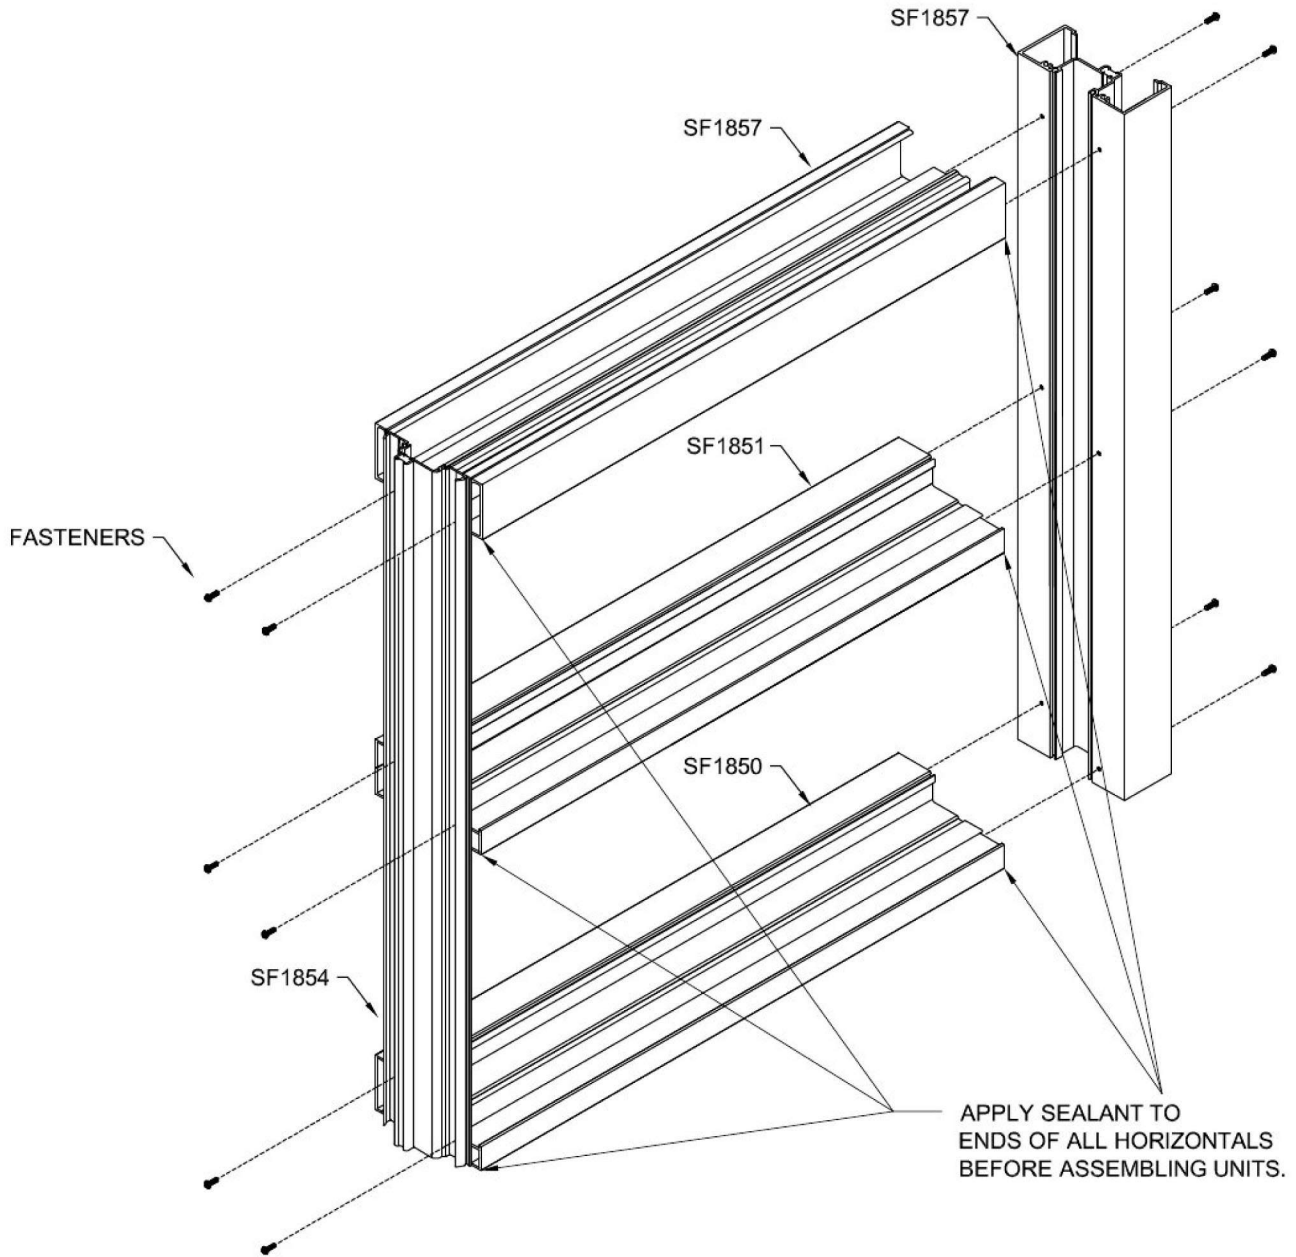

**Fig. 5**
7. If applicable, anchor Compensating Receptor Base SF 2481/311 to structure. See Figure 5.